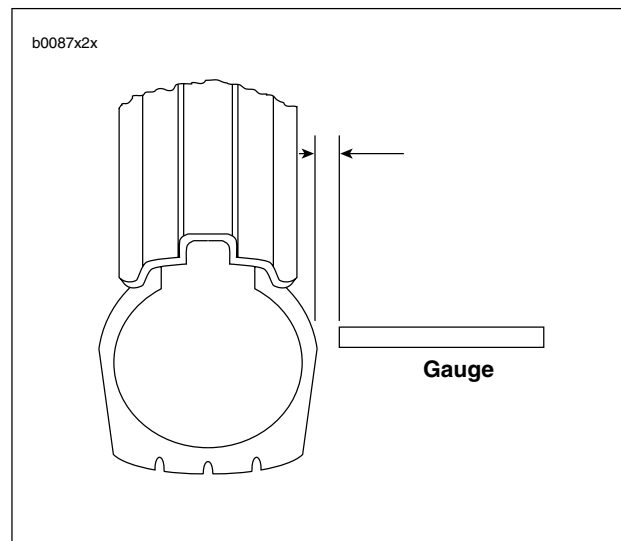

Figure 2-33. Checking Tire Lateral Runout
1. See Figure 2-33. Turn wheel on axle and measure amount of displacement from a fixed point to tire sidewall.